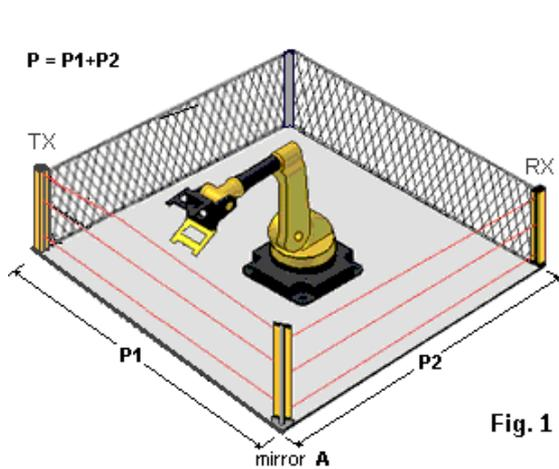

Fig. 1
- Protection to “ L “ shape when the unit must protect 2 sides with the employ of 1 mirror as fig. 1
This solution allows us to protect the 4 sides as in the previous case, but with the use of two mirrors and two light curtains. The alignment should be done as shown in the first reference (fig.1) but acting independently on two combinations of mirrors / barriers.